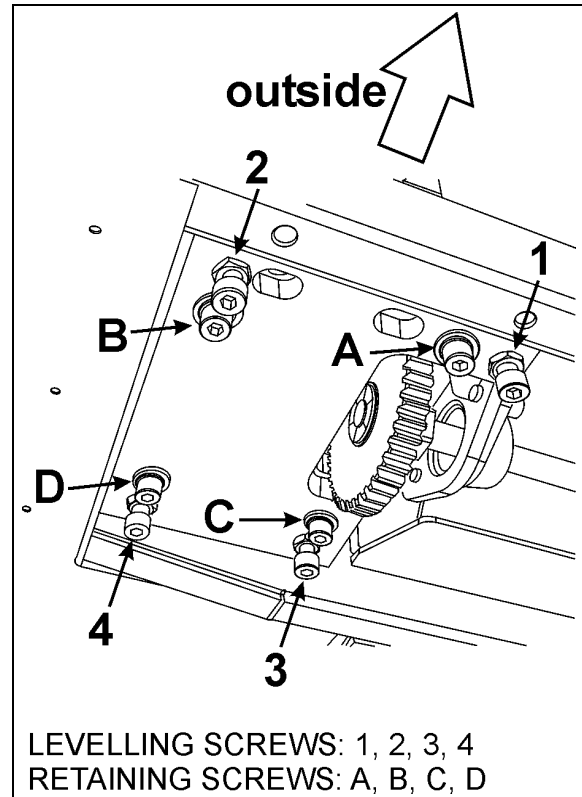

FIGURE 22: SLIDE-OUT LEVELING
4. From the mechanism access panel, remove the retaining screws A, B, C & D (see FIGURE 22).
Leveling of the slide-out is done by changing the linear bearing support plate height using the leveling screws 1, 2, 3, 4 (Figure 22). When proper level is attained, the retaining screws A, B, C & D maintain the support plate seated on the leveling screws. Also, the retaining screws prevent the slide-out from tipping inside the vehicle when it is retracted.
The slide-out is slightly tilted. When retracting, the upper "in limit" stoppers touch first the vehicle structure, followed by the lower "in limit" stoppers. Tilt adjustment is done by changing the linear bearing support plate inclination using the leveling screws 1 & 2 as pivot and 3 to adjust the angle (Figure 22).
2. From under the support plate, remove the acetal plastic block mounting screws (see the oblong holes on FIGURE 22).